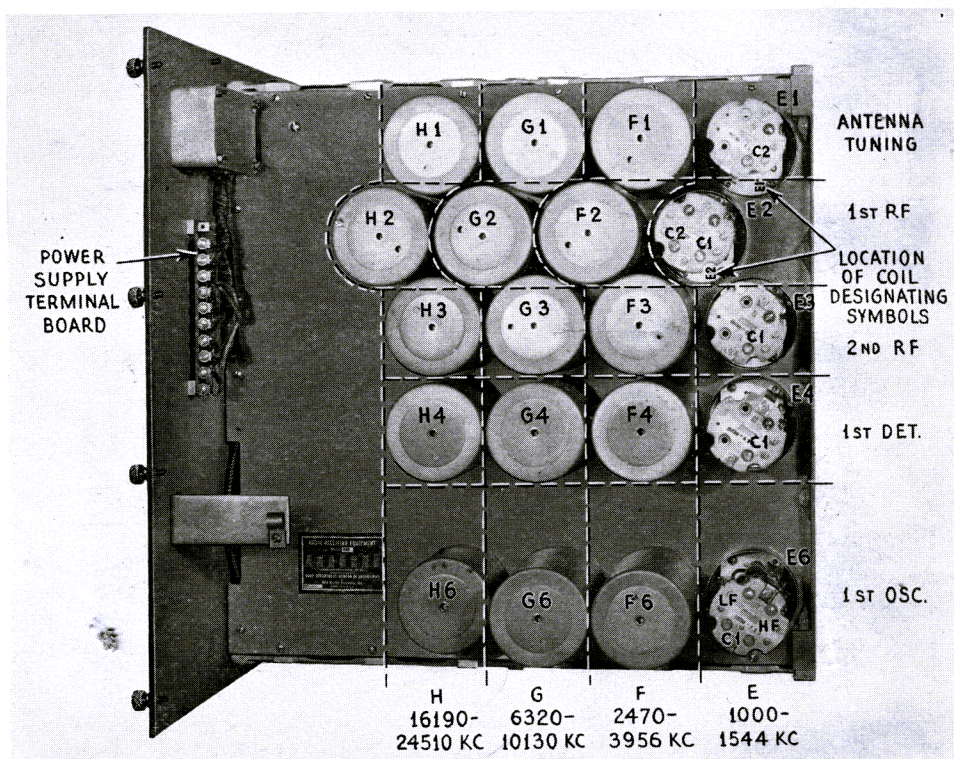

Figure 1—Radio Frequency Tuner CRV-46035
Radio Frequency Tuner—CRV-46035—Top View Chassis	Figure 1 6
5.1-1 Radio Frequency Tuner (See Figures 1, 2 and 3.)